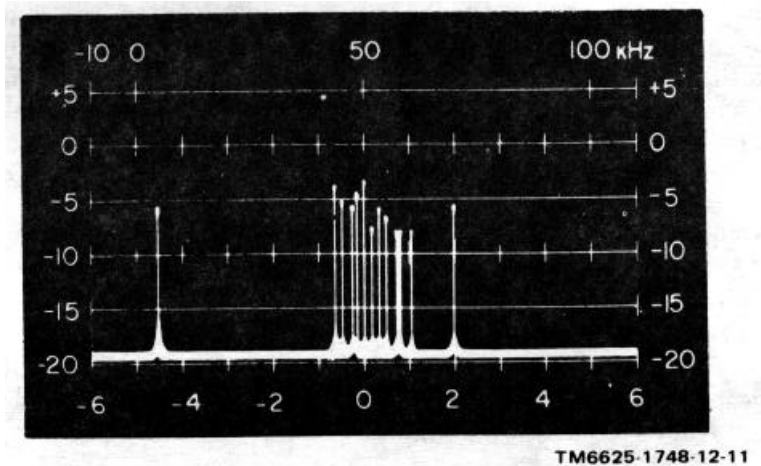

Figure 3-3. Typical 12-kHz display, IP-1018/U spectrum analyzer.
(3) *12-kHz bandwidth display.* In figure 3-3 the spectrum analyzer has been switched to 1 kHz/DIV SWEEP mode. and the tuning unit has been returned to the center frequency of the high density channel observed in figure 3-2. In this mode a 12-kHz bandwidth portion of the spectrum is under observation. The high density signal observed in figure 3-2 now appears as 11 teletype subcarriers.
(a) These two sweep modes provide a "window," either 12 kHz (fig. 3-3) or 3.6 kHz wide (fig.